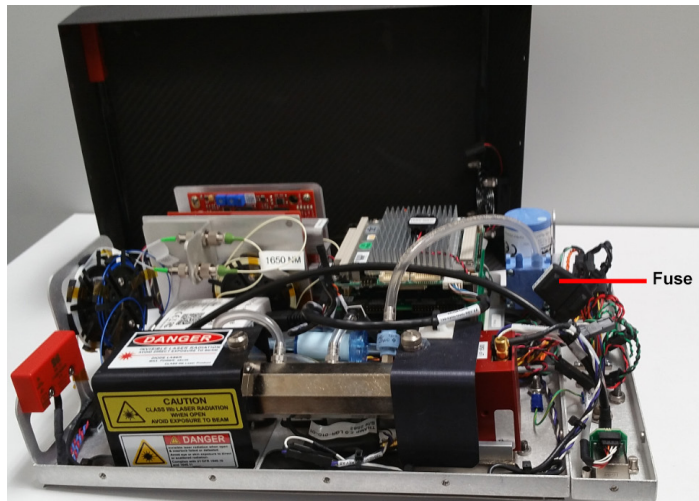

Figure 52 Analyzer Fuse Location
- 6 Locate the fuse. (Figure 52)